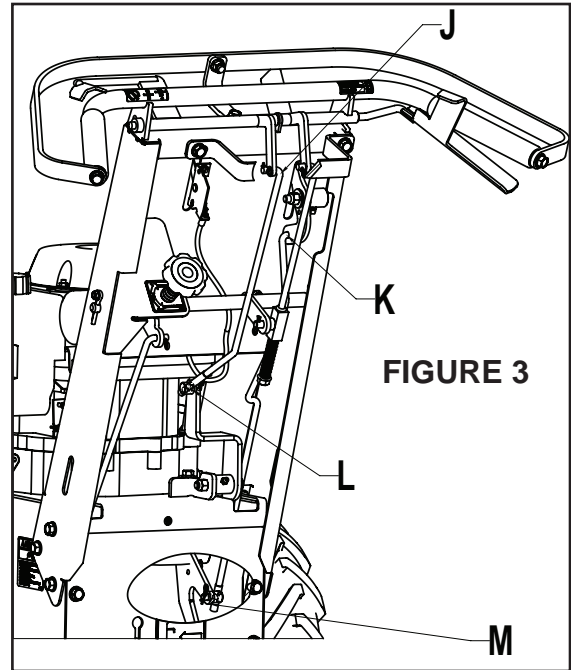

FIGURE 3
1. Push and pull on the machine. The wheels should skid. If the wheels turn, disconnect the brake rod **K** at the brake lever and turn out of the swivel **M** below the engine deck 1 or 2 turns. Reconnect the brake rod and check the adjustment by pulling and pushing the machine again. Continue adjusting until the machine skids with the brake 'ON'. Be sure there is free 'play' in the 'OFF' position so the brake doesn't drag during operation. If a satisfactory adjustment has been made skip to step 4. (Figure 3)